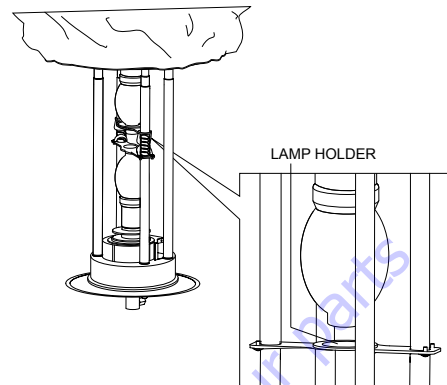

Figure 24. Lamp Holder
3. Press the tabs on the lamp holder and push up lamp holder to release it from lamp. Do the same to the lower lamp if necessary. See Figure 24.